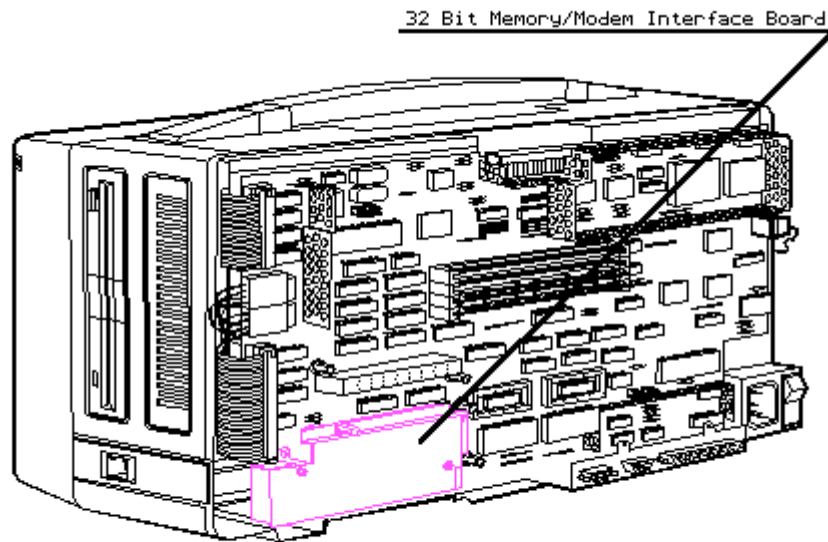

Figure 8-11. 32 Bit Memory/Modem Interface Board Location
3. Locate the 32 bit memory/modem interface board shown in Figure 8-11.